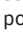

**Fig. 106** Exhibition on the radio system display: parking with the rear view camera system.
Key for → Fig. 106:
- Position the vehicle in front of the parking spot → Fig. 106  **A**.